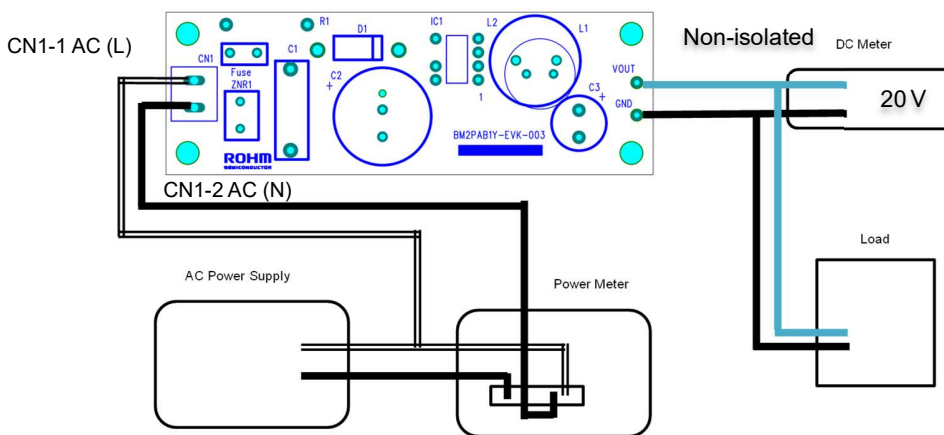

Figure 3. Diagram of How to Connect
- (1) AC power supply presetting range 90 to 264 Vac, Output switch is OFF.
- (2) Electronic load setting under 0.4 A, Load switch is OFF.
- (3) The reference board connects to measuring equipments and power supplies as in Figure.3.
- (4) AC power supply switch is ON.
- (5) Check that output voltage is 20 V.
- (6) Electronic load switch is ON.
- (7) Operate with enough caution against electric shock because of non-isolated output voltage 20 V.